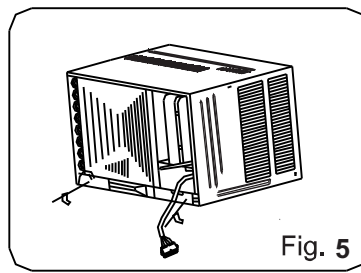

Fig. 5
1. Remove the two fixing screws on the chassis fixing brackets, then remove the chassis fixing brackets (See Fig.5).